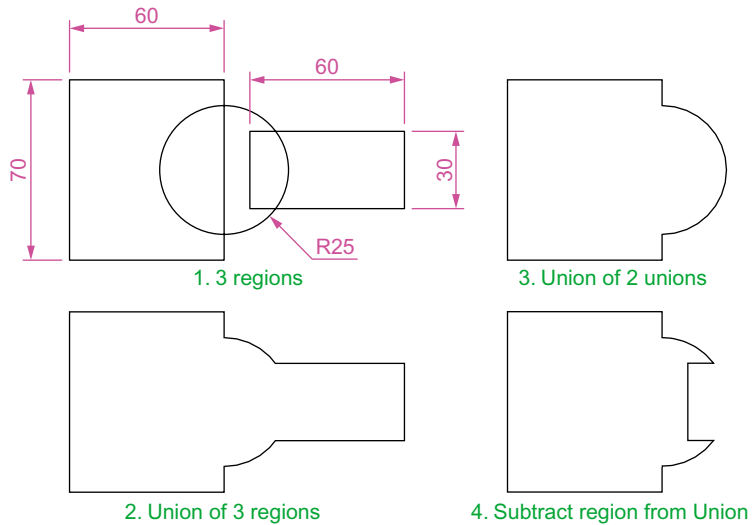

Fig. 12.10 Example – Line and circle outlines and Region
Example – Outlines & Region (Fig. 12.10)
1. Construct the left-hand drawing of Fig. 12.10 using the **Line** and **Circle** tools.
The first two examples of forming regions given in Figs 12.10 and 12.11 are used to show the results of using the **Extrude** tool.
1. Open Fig. 12.10. Erase all but the region **2**.
1. Open Fig. 12.10 and erase all but the region **3**.